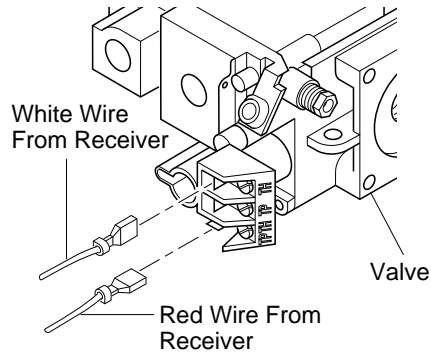

Figure 27 - Connecting Wires
6. Connect wires as shown in Figure 27.